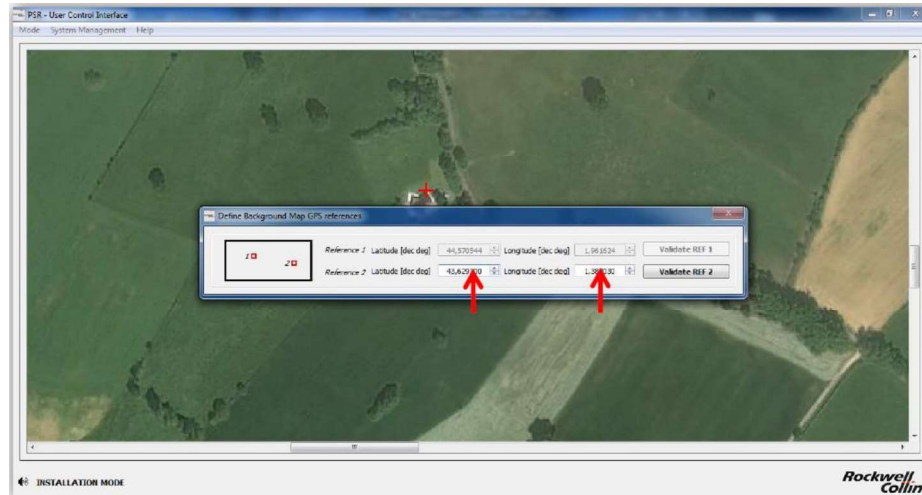

Figure 29: PSR-500 Installer – Save coordinates of point [Reference 2]
- **If you imported your own map**, you should already know coordinates of the point. Register then as indicated in **Figure 29**. If you import your map from Google Earth, locate the point [Reference 2] on Google Earth map, as indicated on the following figure :